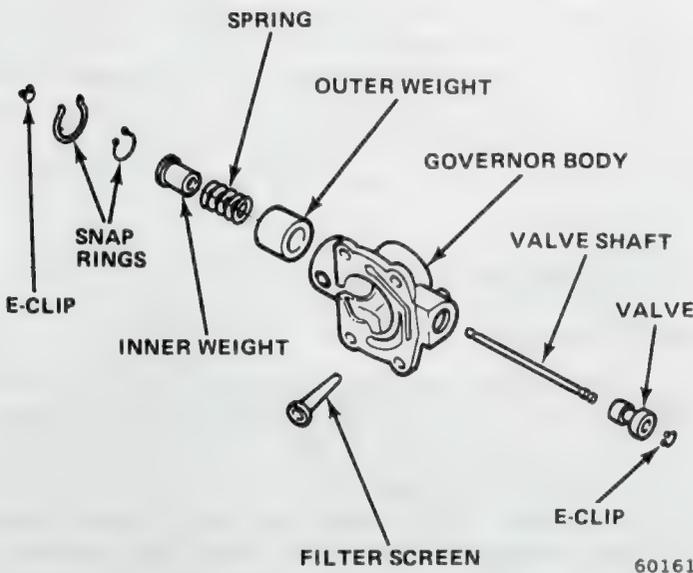

Fig. 2C-25 Governor Valve Assembly
- (1) Remove large snap ring from weight end of governor body (fig. 2C-25).
- (2) Remove weight assembly.
- (3) Remove snap ring from governor weight assembly.
- (4) Separate inner weight, spring, and outer weight. Identify spring with tag.
- (5) If governor support or governor body is to be replaced, straighten lock tabs and remove four bolts that attach body to support.
- (6) Remove governor filter.